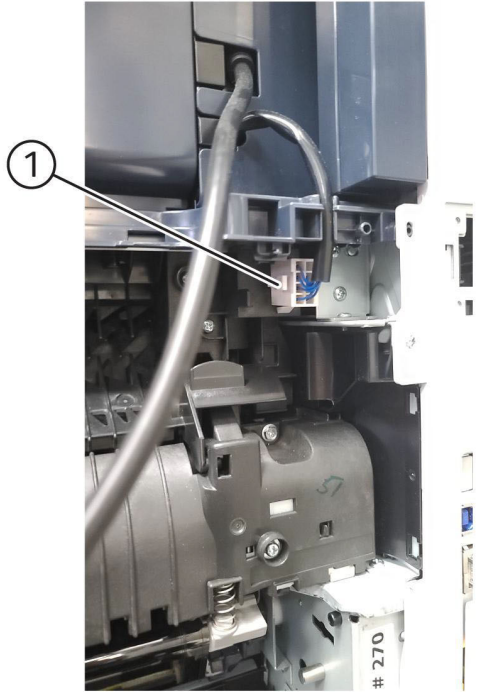

Figure 2 Disconnect the data cable connector
2. Open the rear cover, then disconnect the data cable connector (1), Figure 2.